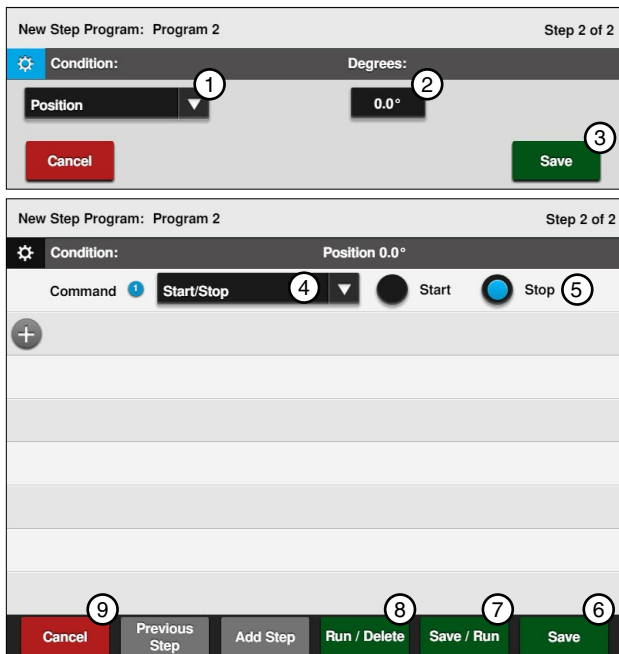

Figure 120-2 1. Position Condition 2. Degrees 3. Save 4. Start/Stop Command 5. Stop 6. Save 7. Save / Run 8. Run / Delete 9. Cancel
1. Program the position condition for this step. Refer to Figure 120-2.